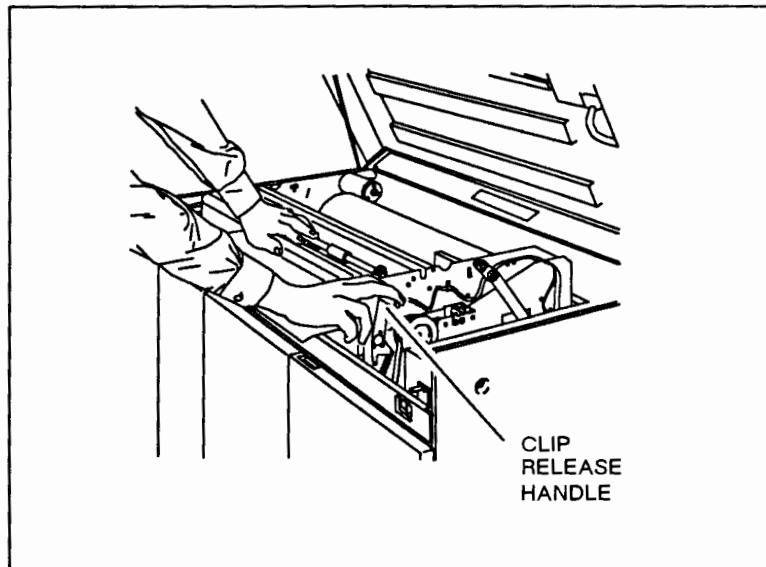

Figure 2-3. Clip Release Handle
- f. Raise the upper frame by pulling back on the clip release handle to the right and in front of the upper frame. See Figure 2-3.